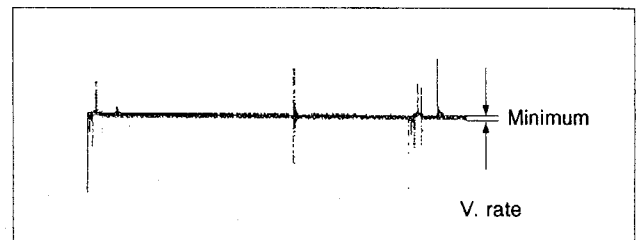

Fig. 3-1-10 Y NR level
- 3) Adjust R214 for minimum DC steup difference, as in Fig. 3-1-10.